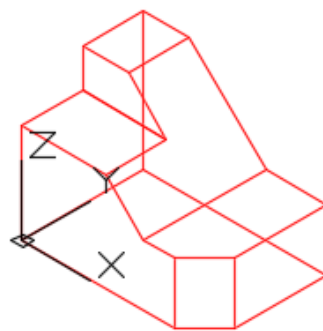

Figure Step 13
Step 13 Press Esc to exit the command. Change the current view to SE Isometric. (Figure Step 13)